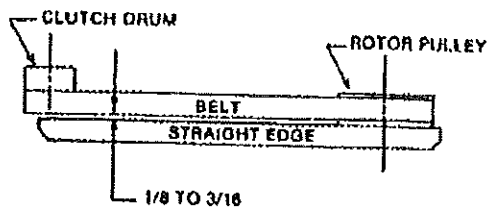

Figure 1
3. Check alignment of the clutch with rotor pulley by placing a straightedge across both faces (see figure 1). If adjustment is necessary, adjust rotor pulley. **DO NOT ADJUST BY MOVING CLUTCH ON ENGINE SHAFT.**